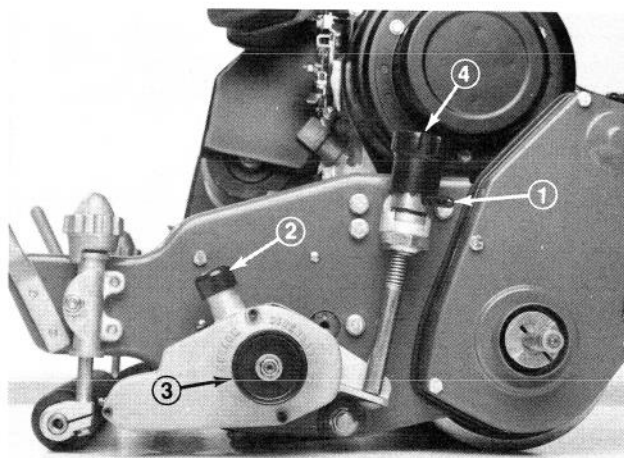
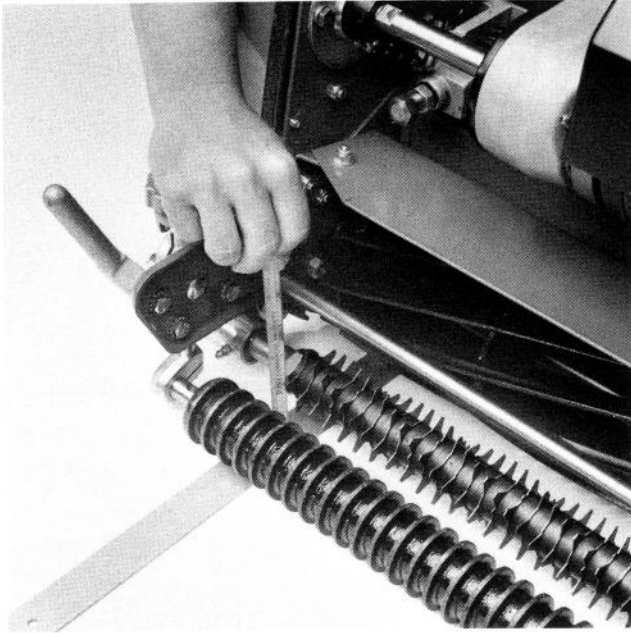

Figure 16
Figure 17
2. Hold the clutch snubber down and disengage the clutch by turning the clutch knob clockwise (Fig. 16). Use the quick up levers (both sides) to lower the grooming reel into the grooming position (Fig. 16).
3. On one end of groomer shaft, measure the distance from the lowest tip of a groomer blade to work surface (Fig. 17). Lift and turn micro adjustment knob (Fig. 16) to raise or lower blade tip. Each notch on the micro adjustment knob is approximately equal to .007 inch of groomer depth.
**IMPORTANT:** When transporting machine be sure to disengage the groomer clutch and raise the grooming reel into its transport (raised) position. To raise the grooming reel, rotate the right and left quick up levers so they face to the rear (Fig. 17). To lower the grooming reel, turn the quick up levers forward and engage the clutch.